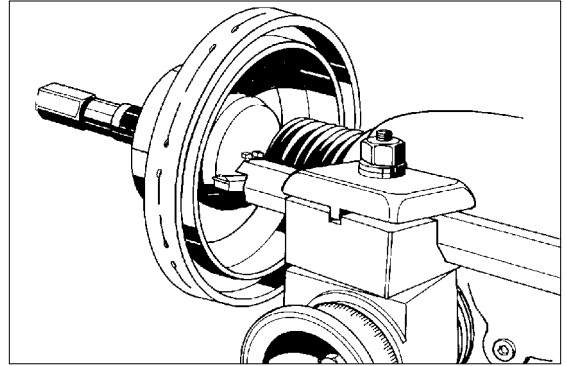

Figure 11 - Positioning the boring bar
**5.** Position the boring bar by loosening the boring bar clamp nut and sliding the boring bar inward toward the drum until the tool bit is close to the drum (figure 11).